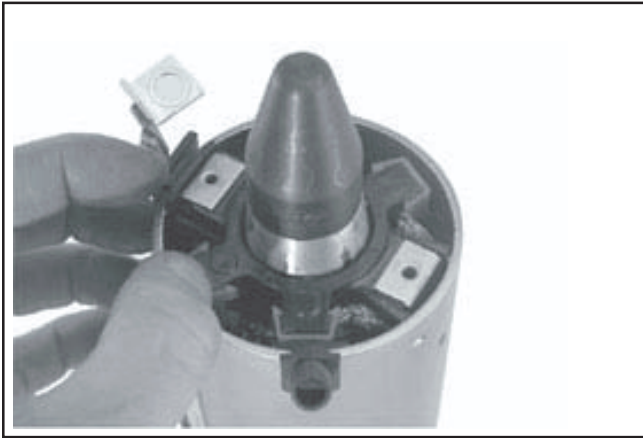

Figure 8-36. Installation using Tool with Extension.
- Hold the starter assembly vertically on the end housing, and carefully place the tool (with extension) and assembled original brush holder assembly onto the end of the armature shaft. Slide the brush holder assembly down into place around the commutator, install the positive (+) brush lead grommet in the cutout of the frame. See Figure 8-36.